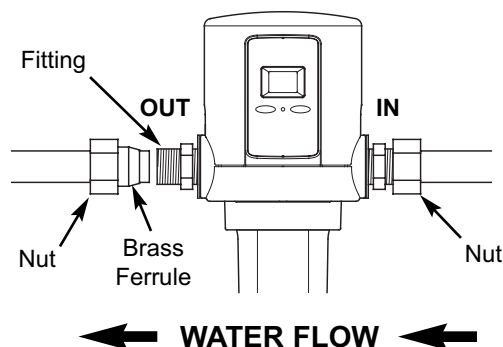

FIG. 12
8. With the **IN** side of the water filter **toward incoming water**, spread the pipes apart and fit both pipe ends into the compression fittings. Move a ferrule and nut up to the fitting (See Figure 12). Then, turn on and tighten the nut. Hold the fitting with one wrench while tightening the nut with the other. Repeat on the other side, again not overtightening.